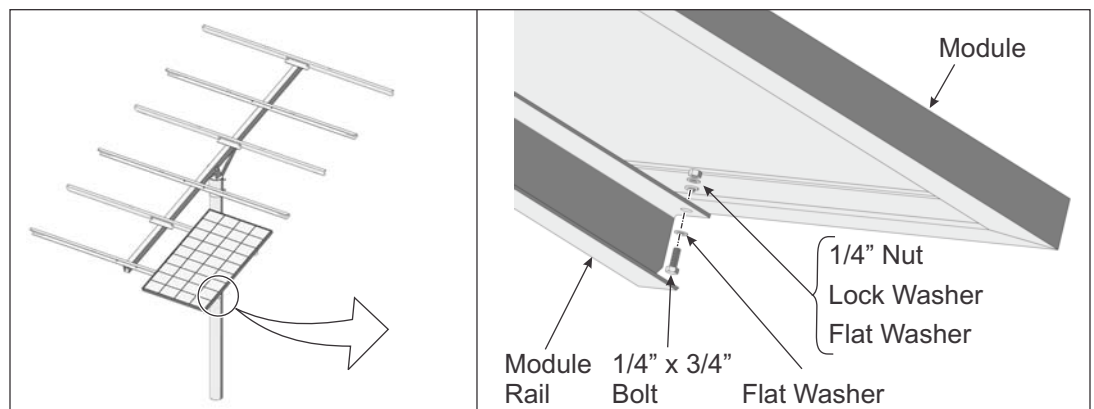

Figure 4-1: Installing PV Modules to Module Rails
- A. Place the southern most PV Module in place on the Module Rails. Align the mounting holes and secure with 1/4 inch x 3/4 inch bolts and hardware. Each Module has four attachment points. Finger-tighten for now. (See Figure 4-1)